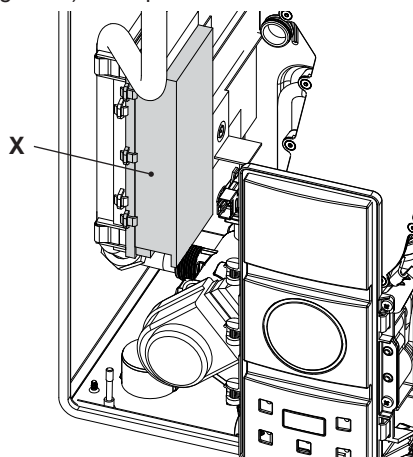

Fig. 6.15
- Identify the terminal block cover lid " X " (Fig. 6.15) and open it.